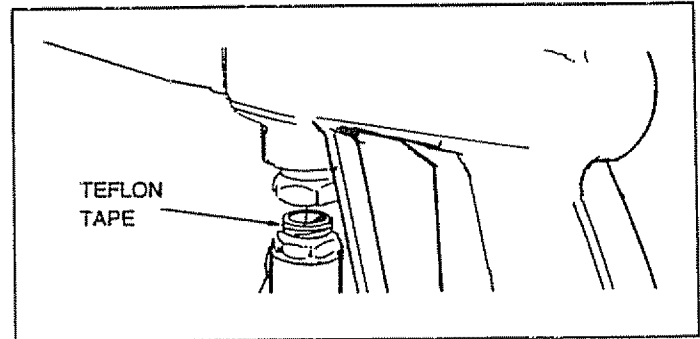

FIG. 6
- Attach fitting with teflon tape to gun and wand assembly (Fig. 6). You may want to spin gun or spin hose to secure connection. Tighten with adjustable wrench.